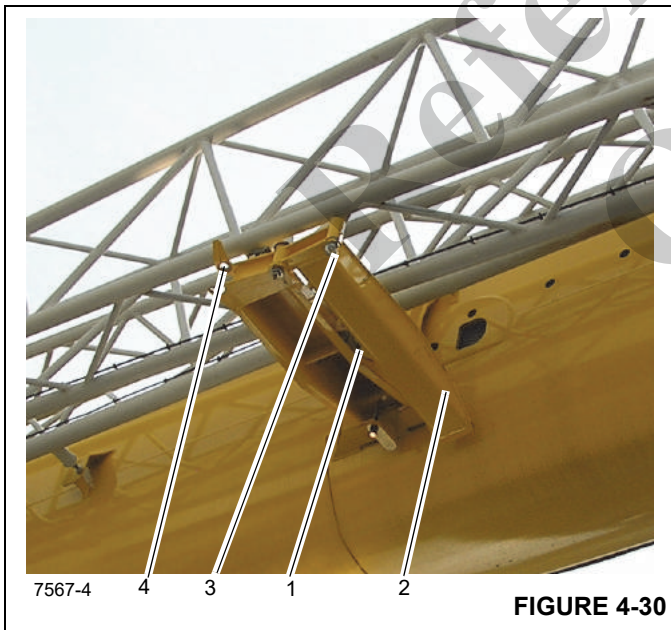

FIGURE 4-30
4. Release the spring latch (1) (Figure 4-30). Fold out the run-up ramp (2) until the locking pin (3) engages the tab (4).